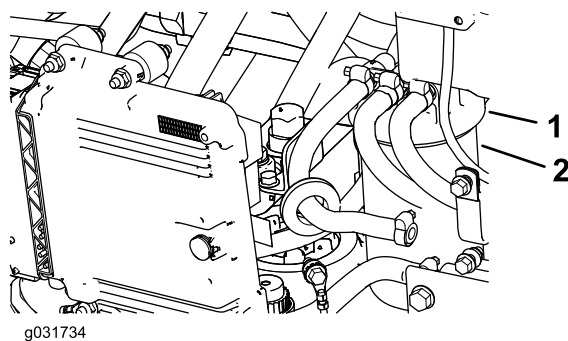

Figure 101
1. Clean the area around the fuel-filter head (Figure 101).
2. Remove the filter and clean the filter-head-mounting surface (Figure 101).